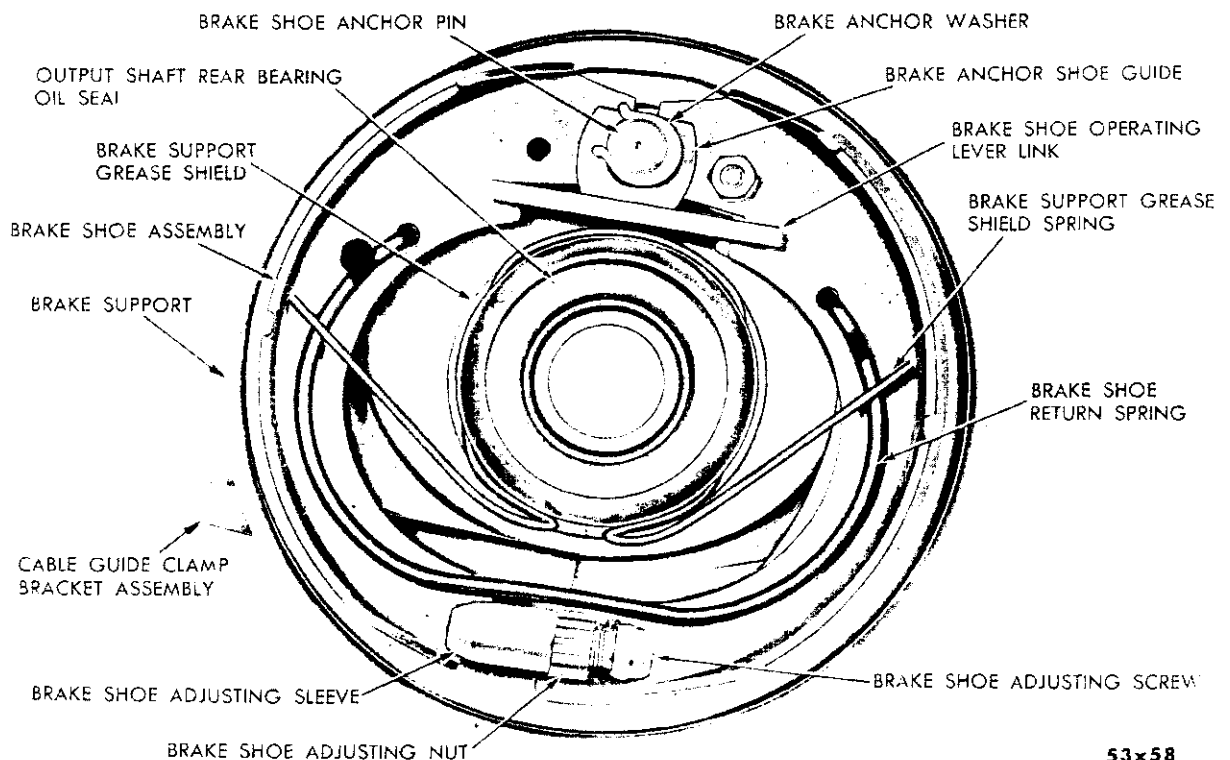

Fig. 35—Internal Expanding Parking Brake (Drum Removed)
spring, and remove grease shield (Fig. 35). Be careful not to damage the neoprene spacer in back of shield during removal.
(1) Place the neoprene spacer in position on back of brake support plate with steel sleeve in center of support.
(2) Place the brake assembly on extension housing with support and brake shoes positioned over the anchor pin. Install brake shoe guide and locking washer on anchor pin.
(3) Install the grease shield, with flat on shield aligned with flat on extension housing. Install grease shield retainer spring with opening of spring toward brake shoe adjusting nut. Make sure spring is properly seated in groove.
(4) Slide the brake shoe return spring behind the grease shield spring and hook into position (Fig. 35).
(5) Engage the ball end of parking cable in brake shoe operating lever and tighten cable clamp bolt.
(6) Install the cover plate on back side of parking brake support plate.
(7) Install the parking brake drum, install the washer with its three projections toward the drum